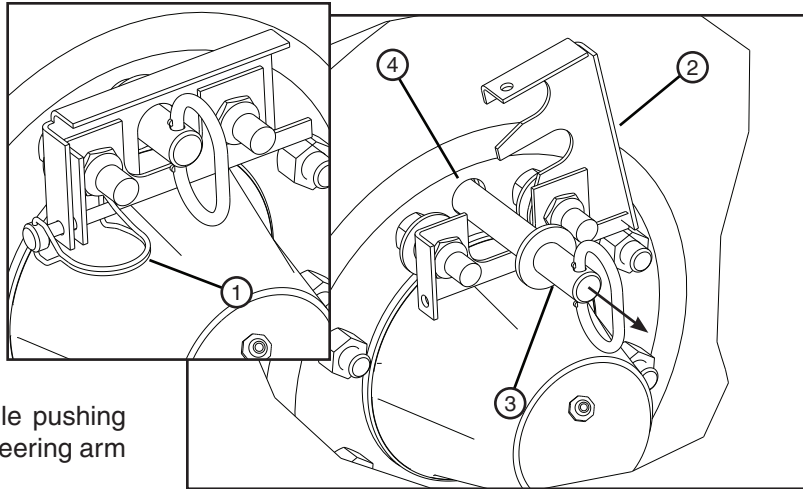

Figure 36-1 1. Lynch Pin 2. Retainer Clip 3. Torque Pin 4. Hub Torque Pin Receiver
5. Remove lynch pin from retainer clip, then open retainer clip and pull the torque pin from axle torque arm behind gearbox hub and hub torque pin receiver. See figure 36-1.